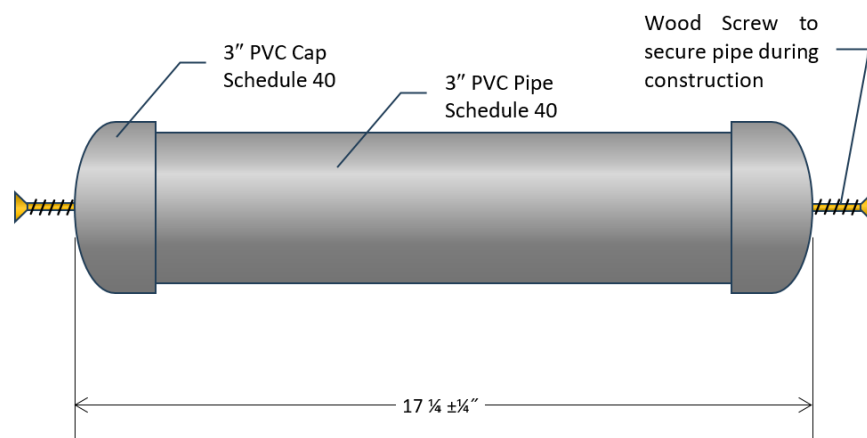

Figure 3: Dimensions of the PVC pipe (not to scale)
- f) Include a PVC pipe (Figures 3 and 4) to represent the tunnel obstruction. Temporary templates may be used to control alignment of the pipe.